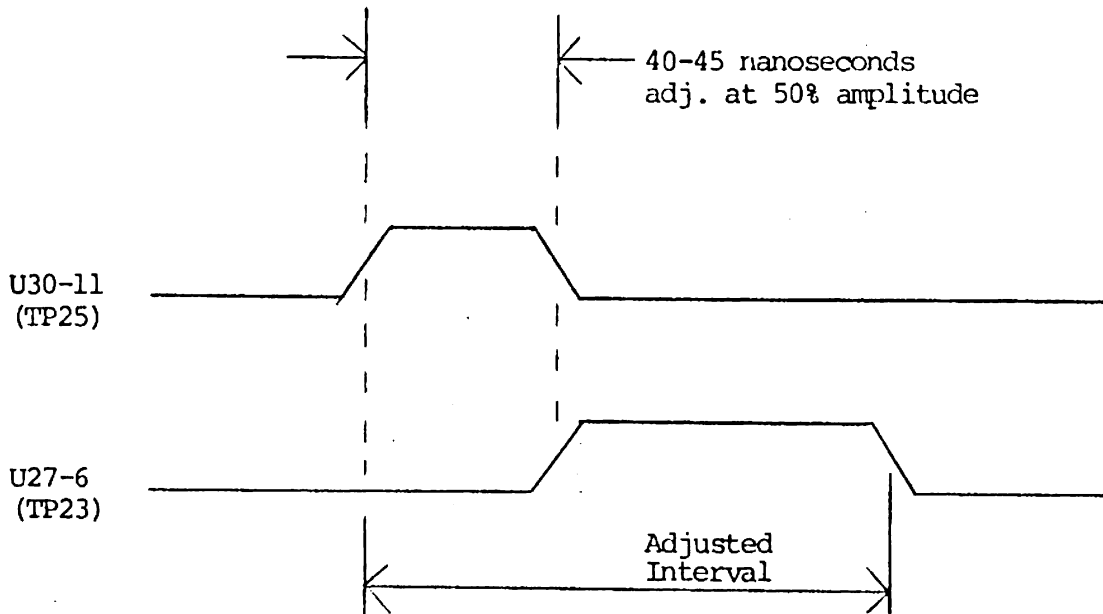

FIGURE 1.
1. 0 Adjust output of U30 (700-8020) for 40 to 45 nanoseconds pulse width (reference Figure 1.) measured at 50% amplitude.
2.5 While reading, adjust potentiometer R115 as follows: (Reference Figure 1)
- 3.5 While reading all ones, adjust R113 (short) as follows: (Reference Figure 1)